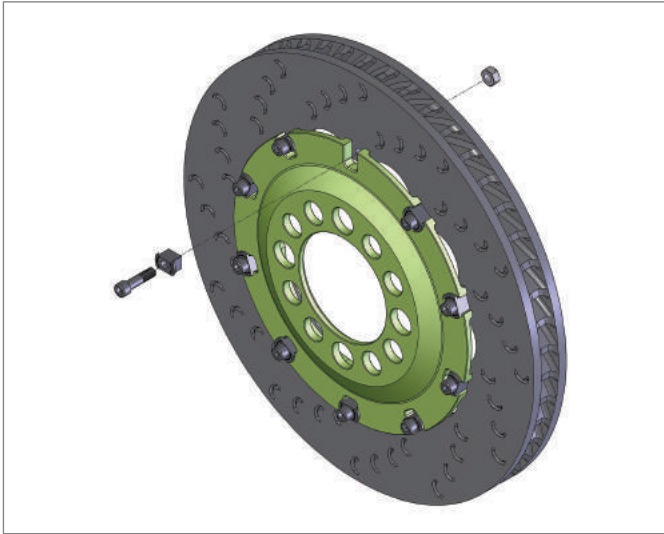

Figure 1. Bobbin drive system with bolt (x401 series).
- Bobbin drive system with bolt (see Figure 1).